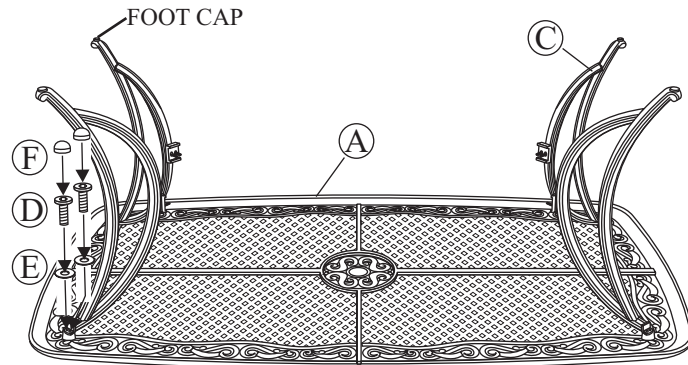

Fig.1
- 1 Working from behind the chair, have another person stand in front of the chair and position the sling seat frame in between the arms of the seat base as shown in **Fig.1** so that the holes on both sides of the upper portion of the seat frame back align with the fixed nut holes in the seat base.
- 1 Place the table top upside down on a flat, non-abrasive surface. Attach a table leg to the table top by using the bolts and washers as shown in Fig.1. Guide bolts through holes in the table legs and into the pre-drilled holes in the table top. **Hand tighten 2-3 turns only.** Repeat for the other three legs.